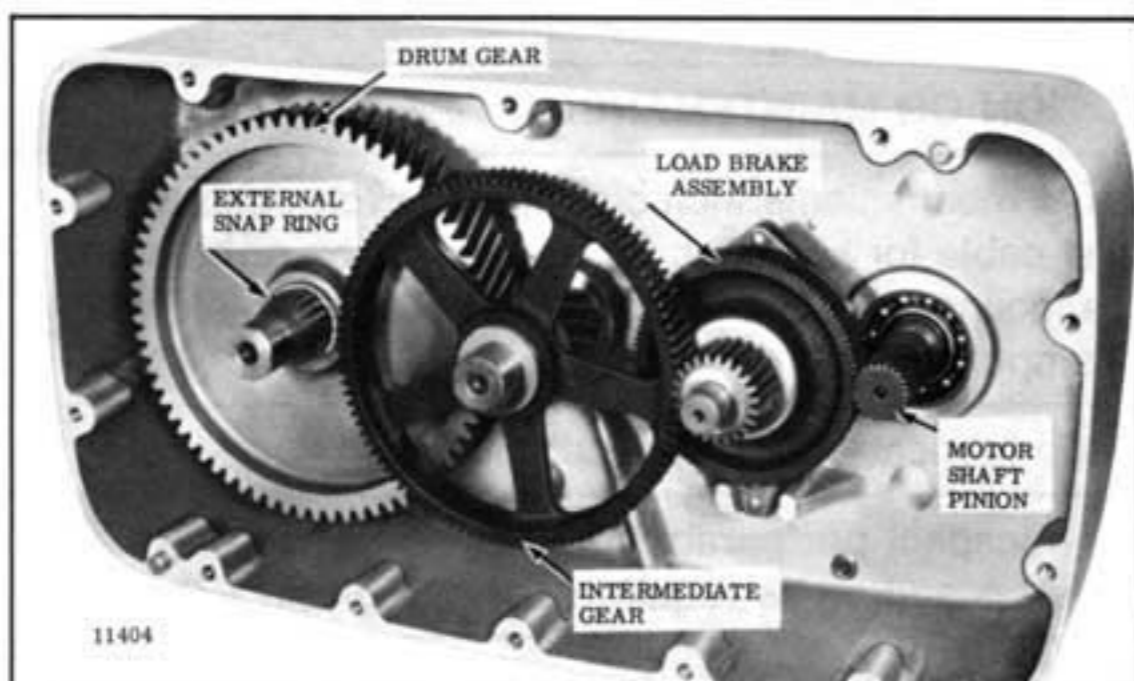

Figure 5-3. View of Gearcase — Cover Removed.
- The mechanical load brake and gearing may be inspected and serviced with hoist suspended. To do so, remove lower block and wire rope, drain oil from gearcase, remove 12 hex head bolts and lockwashers holding gearcase cover, and pull cover from gearcase (Figure 5-3).